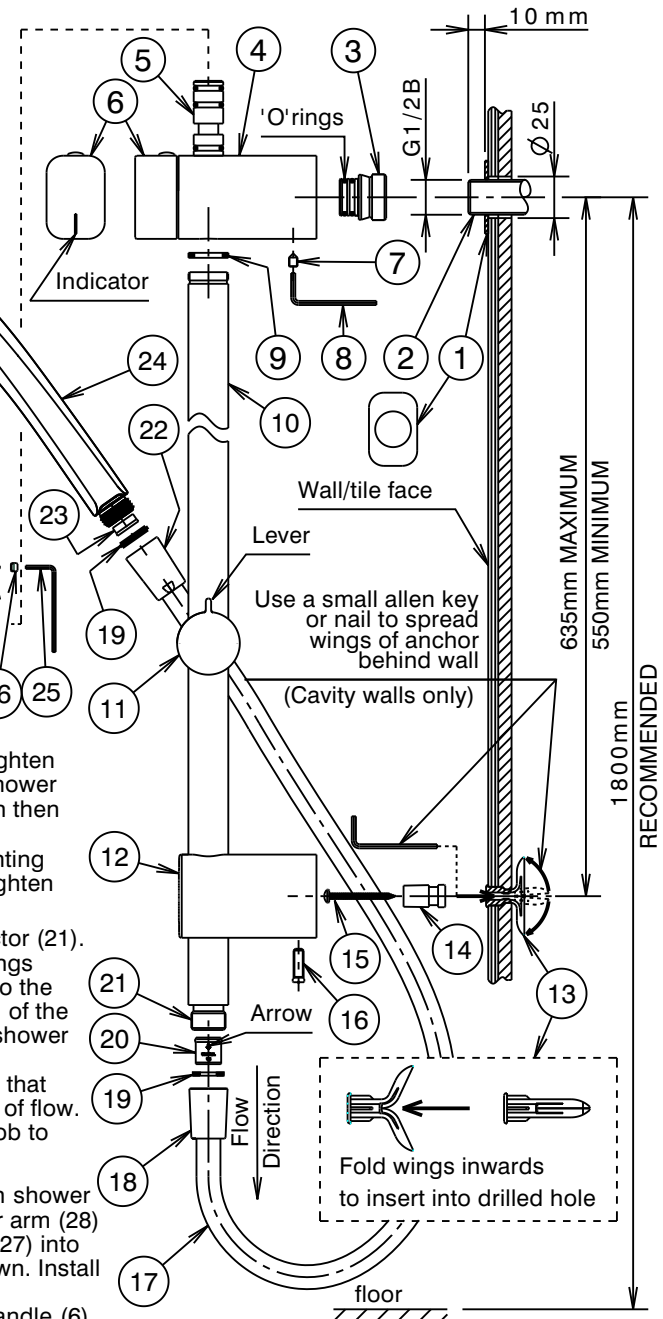

Fig. 1 IS1765A(01/18)
- 2) Slide wall plate (1) over threaded nipple (2). Screw on adaptor (3) until it bottoms against wall plate (1), taking care that the wall plate is vertically aligned when the adaptor is tightened. DO NOT OVERTIGHTEN. Apply suitable lubricant to 'O'Rings on adaptor (3).
- 3) Mark the position for the mounting spigot (14) drilled hole at a suitable distance from the threaded nipple (2). (Fig 1.)
- ii) Fold the wings of the anchor (13) inwards, as shown.
- iii) Insert the folded anchor (13) into the drilled hole and tap until the head is flush with the wall surface.
- iv) Insert a small allen key or nail into the hole of the anchor (13) to spread the wings of the anchor behind the wall (Fig.1).